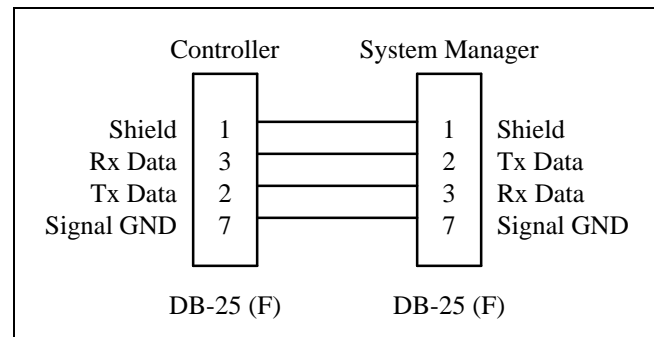

Figure 12- System Manager to Controller Using Direct Connection
If the System Manager Modem is not used, connect the System Manager to Port 0 (SM) on the back of the Controller using the connection shown in Figure 12.